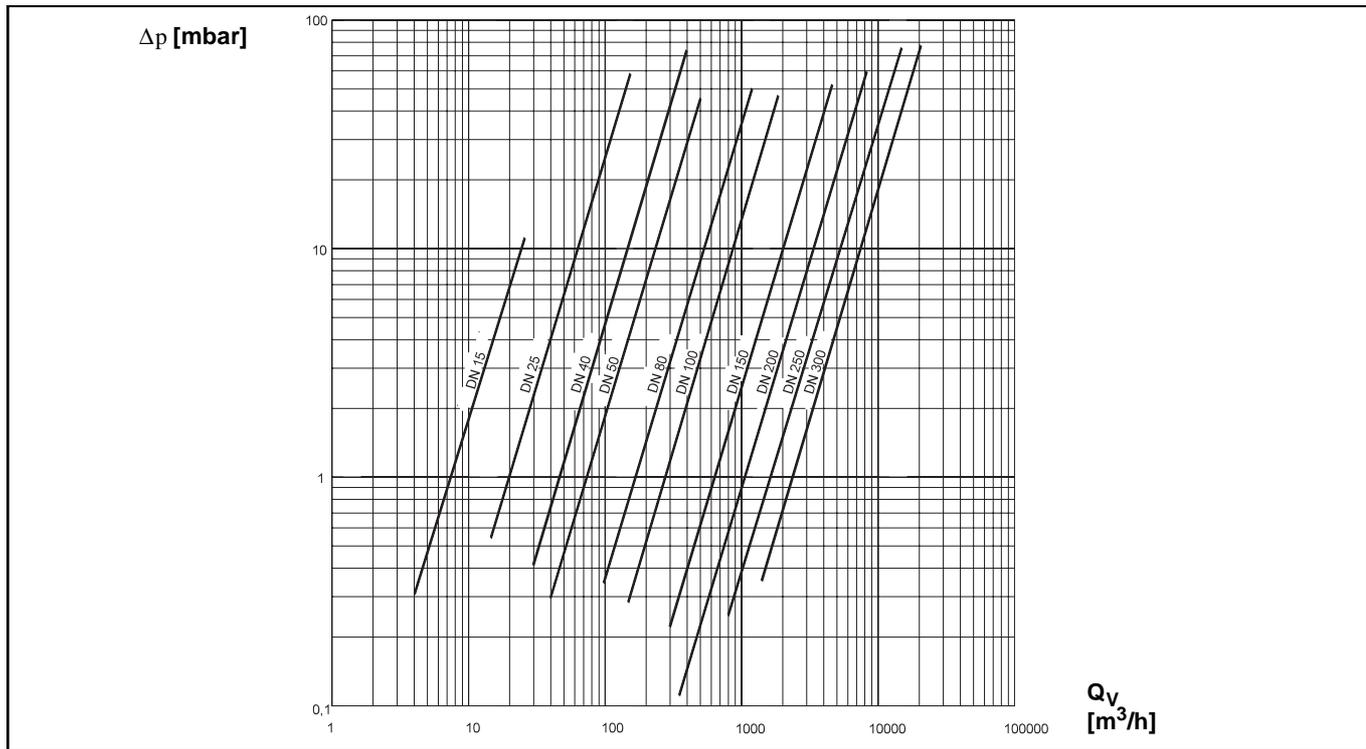

Fig.7 Pressure Drop, Air (20 °C, 1013 mbar, $\rho = 1.2 \text{ kg/m}^3$), DIN-Design
- Flow range start at $\rho = 7.4 \text{ kg/m}^3$ (from Fig. 7):
See Fig. 7 for air (at 20 °C, 1013 mbar, $\rho = 1.2 \text{ kg/m}^3$)
Δp = Air pressure drop (from Fig. 7) [mbar]